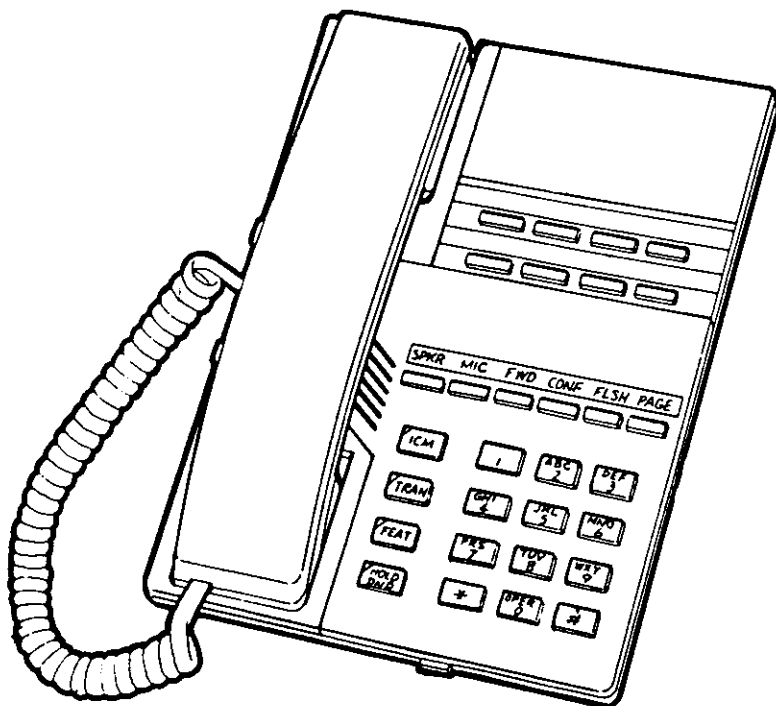

FIGURE 2-6
- The ZT-8K electronic key telephone as illustrated in FIGURE 2-6, features eight (8) working keys that can be programmed to a user's individual requirements. All other station feature/function keys are non-programmable.